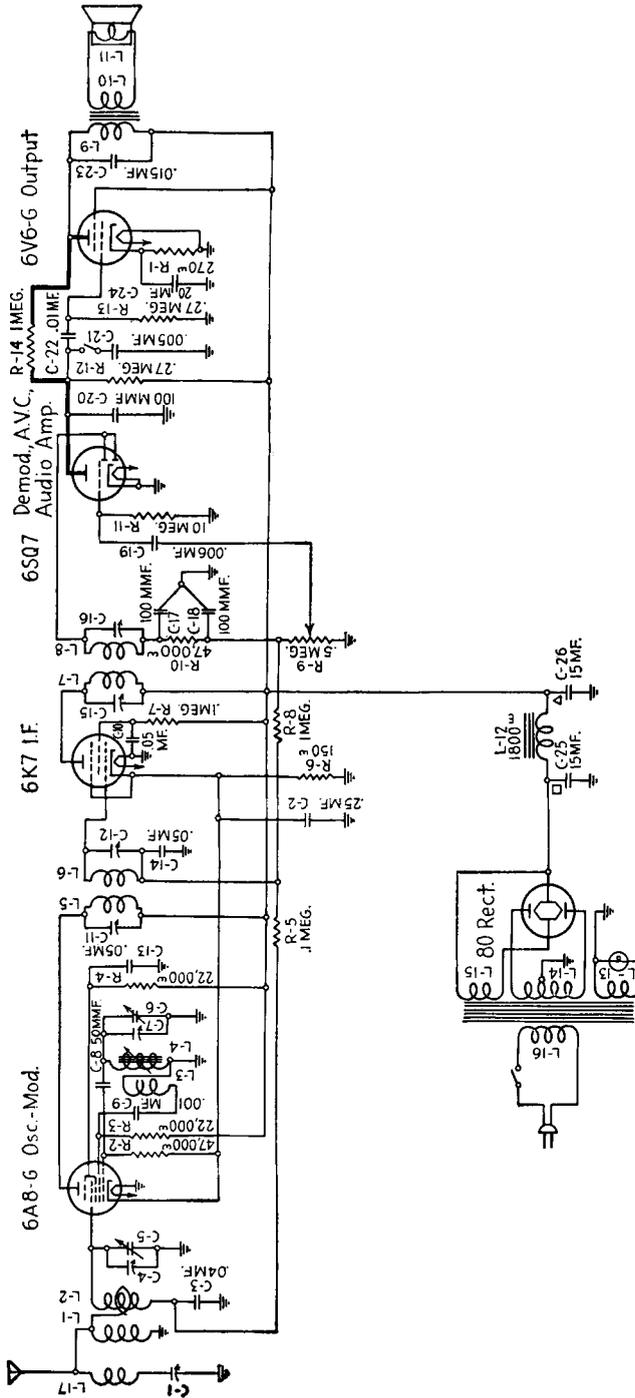

FIG. 10-14. Schematic circuit of the Stromberg-Carlson No. 400 receiver.
Figure 10-14 shows a similar 2-point tone control. In this case, the shunting action of  $C-21$  and its associated switch is in the input circuit of the second AF tube.
stage. In Fig. 10-14 the inverse feedback circuit is shown by the heavy lines. The feedback voltage is taken from the plate of the 6V6-G output tube and fed through resistor *R*-14 back to the plate of the first AF section of the 6SQ7 tube.
As a general rule, inverse feedback circuits do not cause many complications to the serviceman. All tests and service notes pertaining to the standard amplifier circuit may be applied. Resistor *R*-14 in the feedback circuit, represented in Fig. 10-14, will rarely cause any service difficulty.
5. The receiver of Fig. 10-14 has low volume and sounds tinny. A voltage check shows normal voltage readings. Substitution of the bench test speaker causes no improvement. What should the next check be?
6. The receiver of Fig. 10-14 motorboats. Bridging the output filter condenser *C-26* with a 20-mfd/450-volt condenser causes no improvement. What should the next check be?